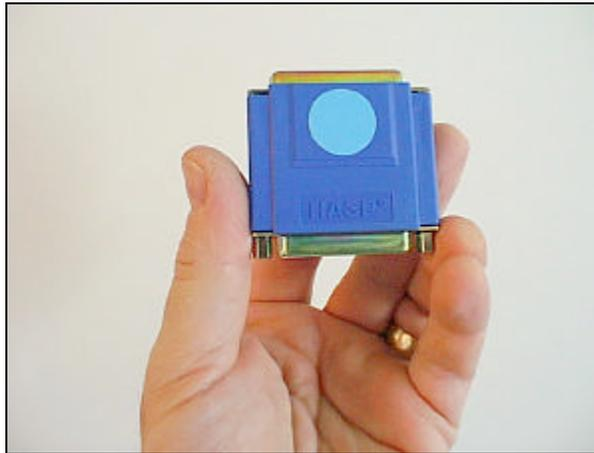

Figure 3-1. Security Key
- Once Windows 95/98/NT has restarted, connect the Analysis program security key to the parallel (printer) port of the PC (See Figures 3-1 & 3-2 in Section 3). Right-click on the Analysis icon and select Properties. Click on the Shortcut tab. If the words **auto:rule_base** are not in the target string, insert the word string following the **.exe** suffix. (Make sure a space is between **.exe** and typed words.) The command line's word sequence determines which mode the software boots. If the words **auto:rule_base** and **analysis** were reversed, then the software would boot in the Manual Analysis mode. Click on Apply, then OK to exit the icon properties menu. Double-click the Analysis icon under the *EddyVISION32 Rel 4.x* folder on the desktop and Analysis should start.
In order to start and use the Auto program, any valid HASP? security key must be connected to your computer's printer port. Figure 3-1 shows what the security key looks like. These keys are fabricated in such a way that more than one key can be connected in series if you wish to use other CoreStar software products concurrently.